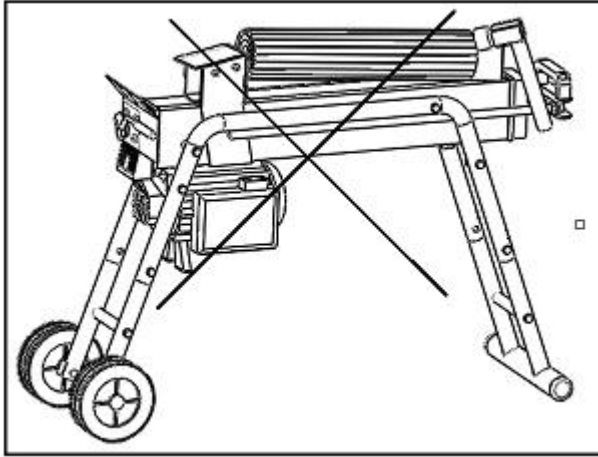

Fig.11
**Do not try to knock the jammed log off. Knocking will damaged the machine or may launch the log and cause accident (fig.11).**